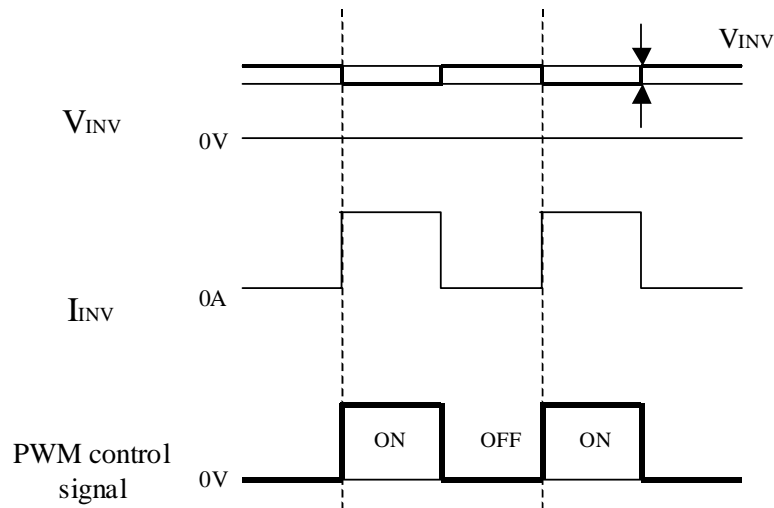

Fig.4 Brightness control voltage.
- c) Brightness control voltage is switched for "ON" and "OFF", as shown in Fig.4. Voltage difference generated by this switching,  $V_{INV}$ , may affect a sound output, etc. when the power supply is shared between the inverter and its surrounding circuit. So, separate the power supply of the inverter circuit with the one of its surrounding circuit.